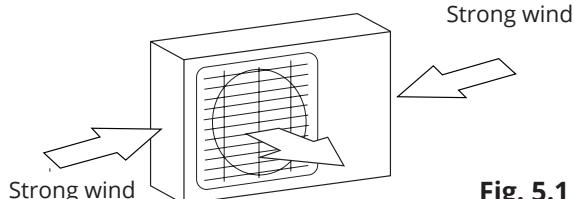

Fig. 5.1
- If the location is exposed to strong winds (for example: near a seaside), the unit must be placed against the wall to shelter it from the wind. If necessary, use an awning. (See Fig. 5.1 & 5.2)